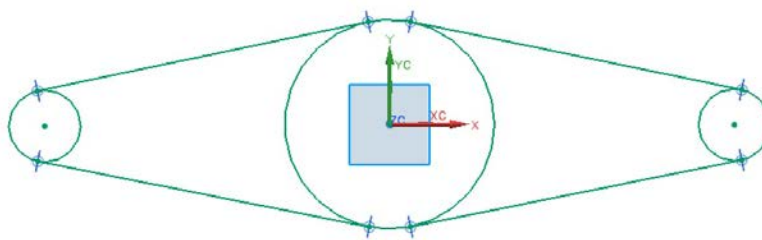

Figure 4-109 Initial sketch for the base feature
- a. Start a new part file using the **Model** template and then draw the profile of the outer loop, refer to Figure 4-109.
3. Draw the sketch using the **Circle** tool and the **Line** tool, as shown in Figure 4-109. Make sure that the **Tangent** and **Point On Curve** constraints are applied between the lines and the circles at all the points where the lines intersect the circles. The **Tangent** constraint is represented by a small line and the **Point On Curve** constraint is represented by a small circle, refer to Figure 4-109. Note that the dimensions are hidden for a clear view.